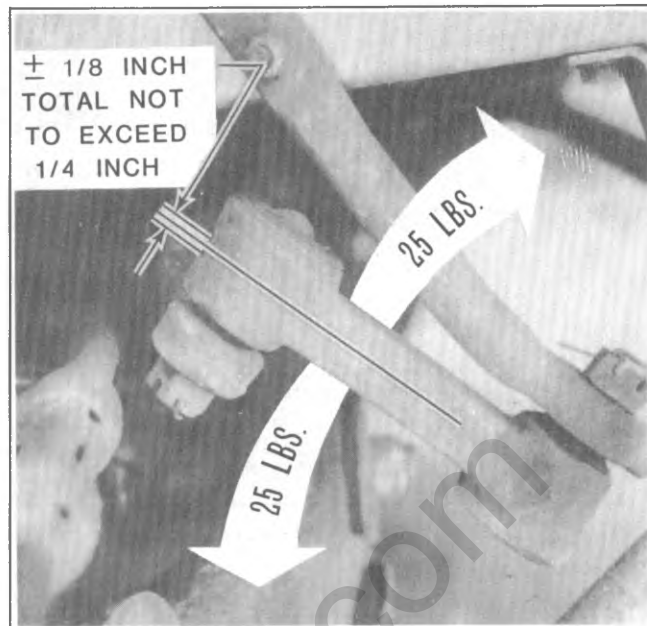

Fig. 3B-108--Checking Idler Movement
2. Using a push pull type spring scale located as near the relay rod end of the idler arm as possible, exert a 25 lb. force upward and then downward while noticing the total distance the end of the arm moves. This distance should not exceed $\pm 1/8$ inch for a total acceptable movement of $1/4$ inch (Figure 3B-108). It is necessary to ensure that the correct load is applied to the arm since it will move more when higher loads are applied. It is also necessary that a scale or ruler be rested against the frame and used to determine the amount of movement since observers tend to over-estimate the actual movement when a scale is not used. The idler arm should always be replaced if it fails this test.